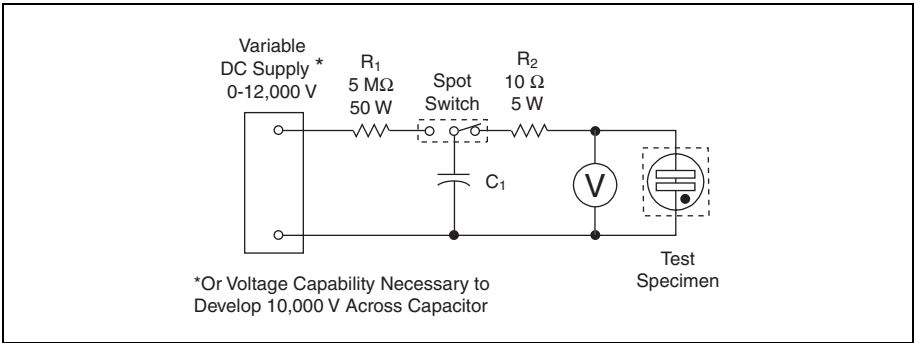

Figure 4.13 UL 497B Discharge Test
4. Discharge Test — Protectors must comply with strike voltage requirements after being subjected to five successive discharges from a 2  $\mu$ F capacitor charged to 1000 V dc. (Figure 4.13)
voltage after being subjected to 500 discharges from a 0.001  $\mu\text{F}$  capacitor charged to 10,000 V dc. The discharges are applied in five-second intervals between one side of the protector and Ground. Upon completion of the discharge tests, protectors are once again required to meet the strike voltage requirement. (Figure 4.13)